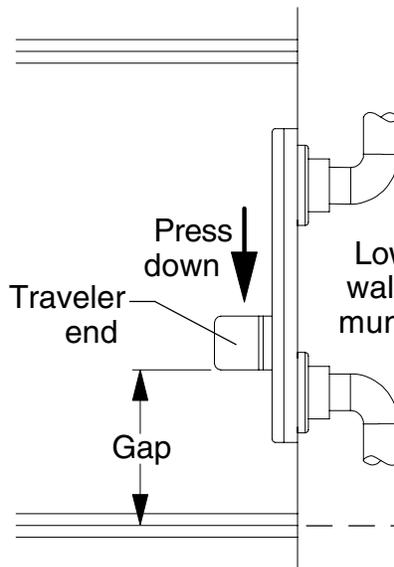

Figure 4-1
4.1. With top rod retracted (see Step 3), press down on traveler end as shown (Figure 4-1). Make sure traveler is held over rod ends and against rod bushings.
4.2. Measure the gap between the bottom of the traveler end and the lower wall of the muntin (Figure 4-1 and Figure 4-2). Adjust top rod per directions in table below.